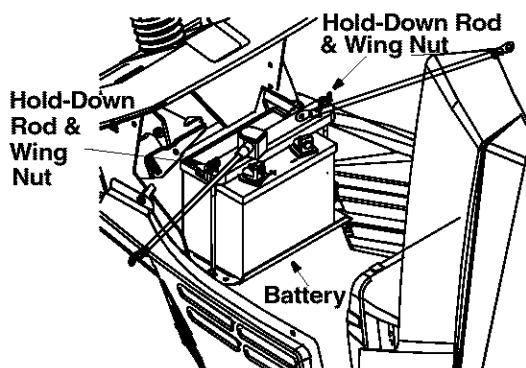

Figure 2
- Lift the hood of the tractor and locate the battery. See Figure 2. Remove the wing nuts from the hold-down rods on two sides of the battery. Disconnect the positive cable from the positive terminal. Save the hardware for reassembly.